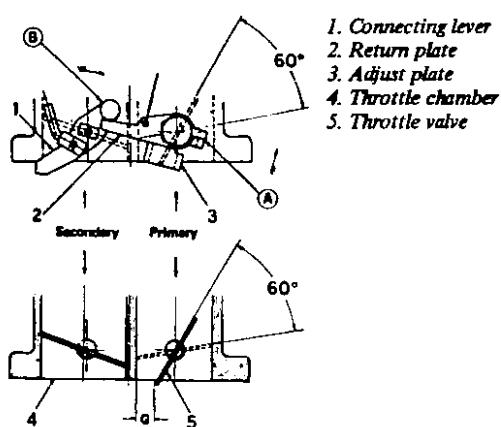

Fig.B.9 Adjusting the throttle valve interlock opening - DAK340 carburettor
With the primary throttle valve of the type DAK340 carburettor opened to 60° as shown in Fig.B.9, the adjusting plate (3) should contact the connecting lever (1). This being the point before the secondary throttle valve is brought into operation. The linkage between primary and secondary throttles is working correctly if the clearance 'G' between primary throttle valve and the wall of the chamber is 7.38 mm (0.3937 in.). Adjust, if necessary, by carefully bending the adjusting plate at point 'A', until the correct setting, is obtained.